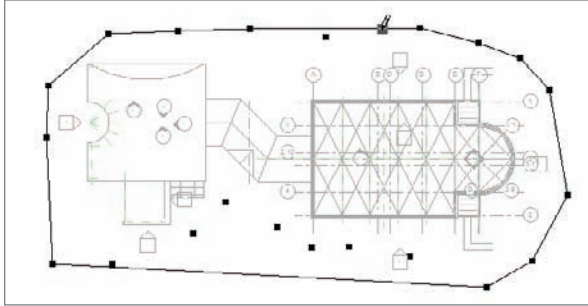

FIGURE 18.2 Adding the first contours
4. Pick points in a circle around the footprint of the building, as shown in Figure 18.2.